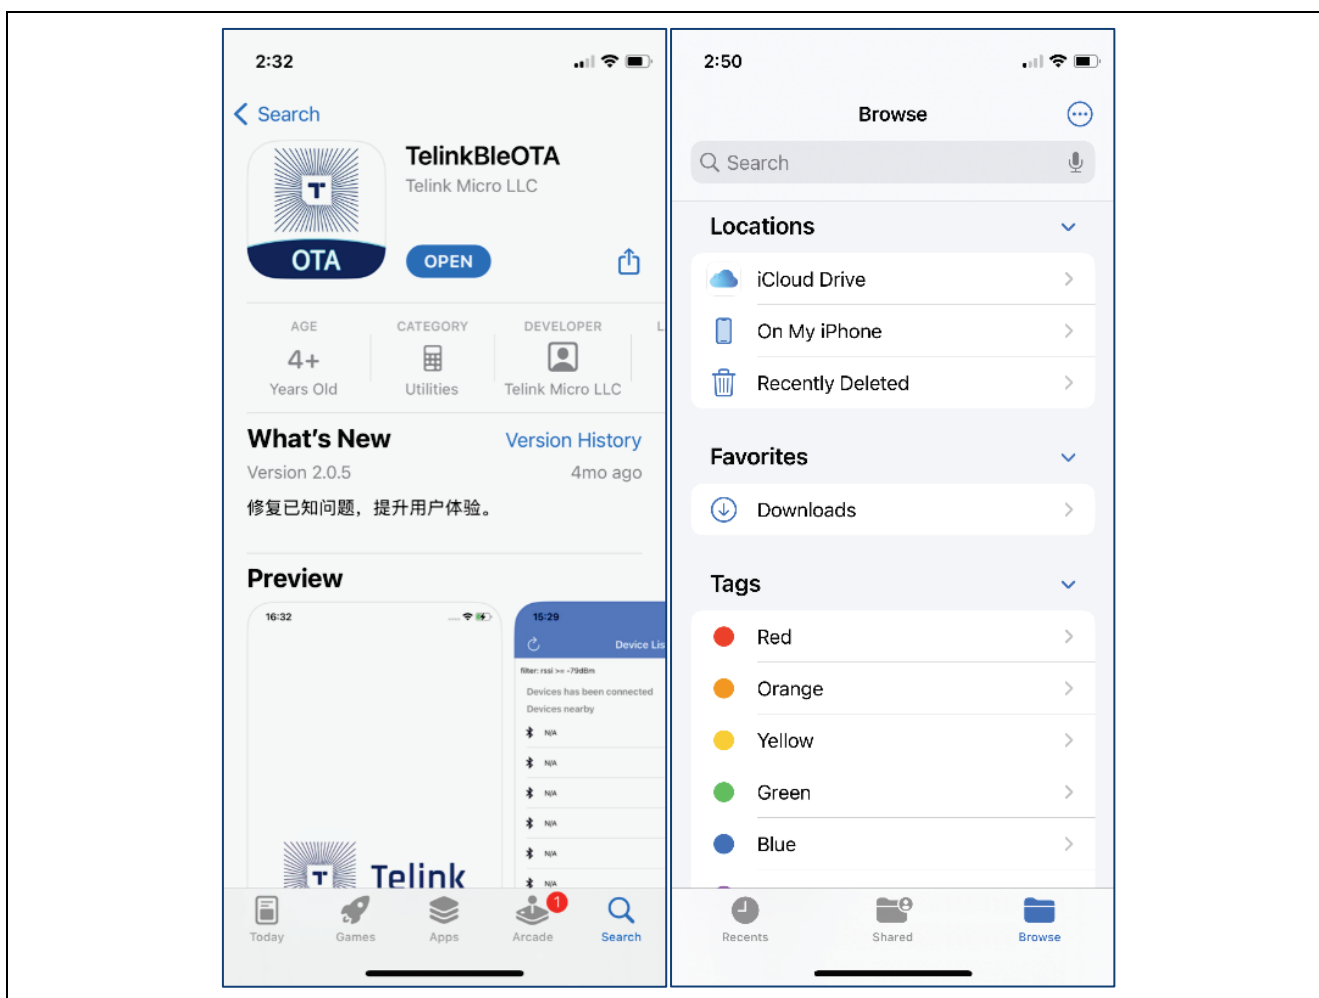

Figure 2. Install App and Load the RYZ012 Firmware Files
- Install the mobile app **TelinkBLEOTA** from the iOS App Store. In the App Store, search for “Telink” to get a list of apps available and install the **TelinkBLEOTA** app. See Figure 2.